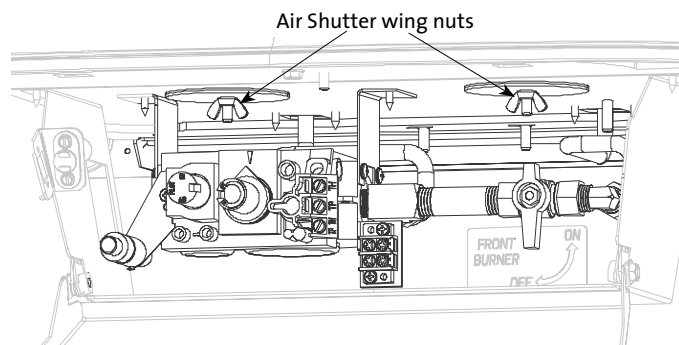

Figure 26. Air Shutter wing nuts are accessed from within the control compartment.
4. Remove both air shutter wing nuts, washers, and gaskets from the studs underneath the firebox. See fig. 26.